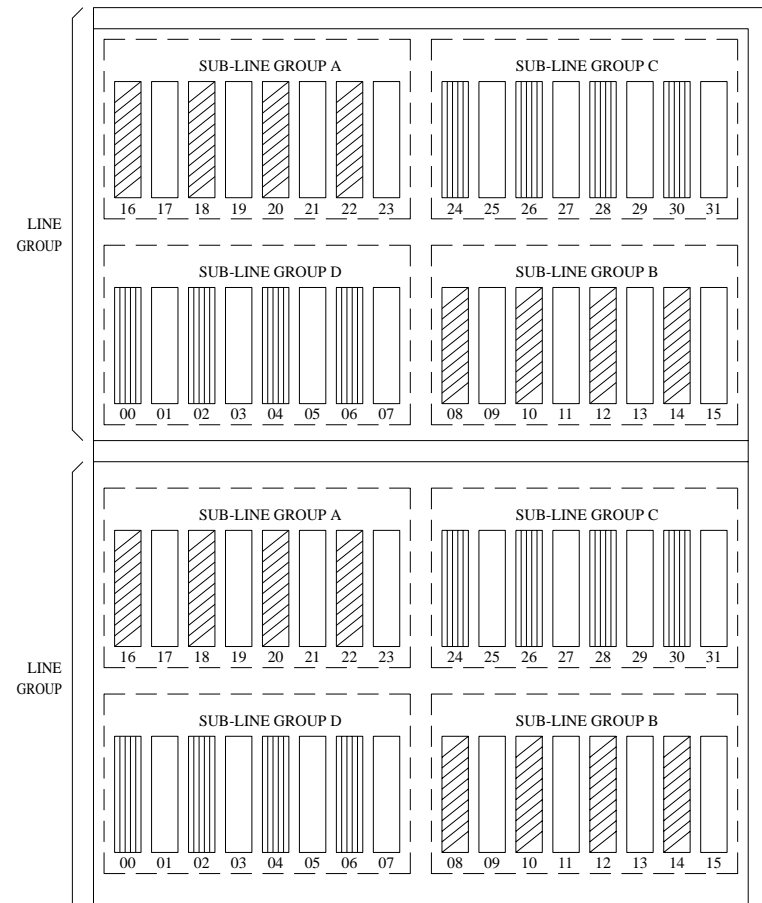

FIGURE 1
1. SUB-LINE GROUP - EACH LINE GROUP IS DIVIDED INTO 4 SUB-LINE GROUPS. EACH SUB-LINE GROUP MAY BE EQUIPPED WITH UP TO 4 LINE CARDS. (SEE FIG. 1 FOR SUB-LINE GROUP NUMBERING).
1. A RISLU/ISLU CAN BE EQUIPPED WITH UP TO 16 LINE GROUP CONTROLLERS (LGC), WHILE EACH LGC HAS ROOM FOR 32 LINE CARDS (LC), ONLY THE EVEN-NUMBERED LC SLOTS MAY BE USED TO TERMINATE OSPS DATA LINKS.
2. THE EVEN-NUMBERED SLOTS OF AN LGC ARE LOGICALLY DIVIDED INTO 4 SUB-LINE GROUPS (SLGS), EACH CONSISTING OF 4 LC SLOTS. FIGURE 1 SHOWS THE GROUPING OF LC SLOTS IN INDIVIDUAL LGCs INTO SLGS.
1. A RISLU/ISLU CAN BE EQUIPPED WITH UP TO 16 LINE GROUP CONTROLLERS (LGC). WHILE EACH LGC HAS ROOM FOR 32 LINE CARDS (LC), ONLY THE EVEN-NUMBERED LC SLOTS MAY BE USED TO TERMINATE OSPS DATA LINKS.